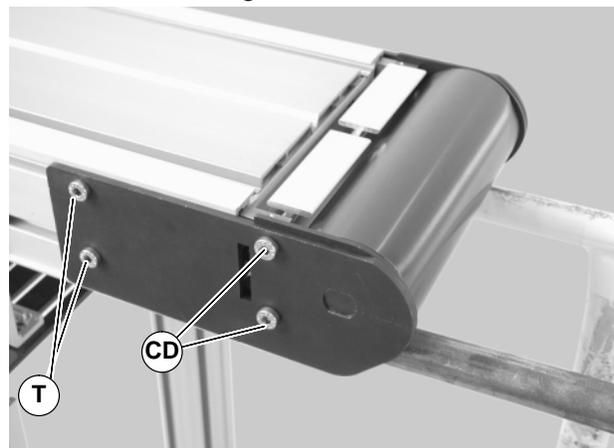

Figure 59
2. On one side of conveyor, loosen the two (2) back fastening screws (T of Figure 59) and remove two (2) front fastening screws (CD).